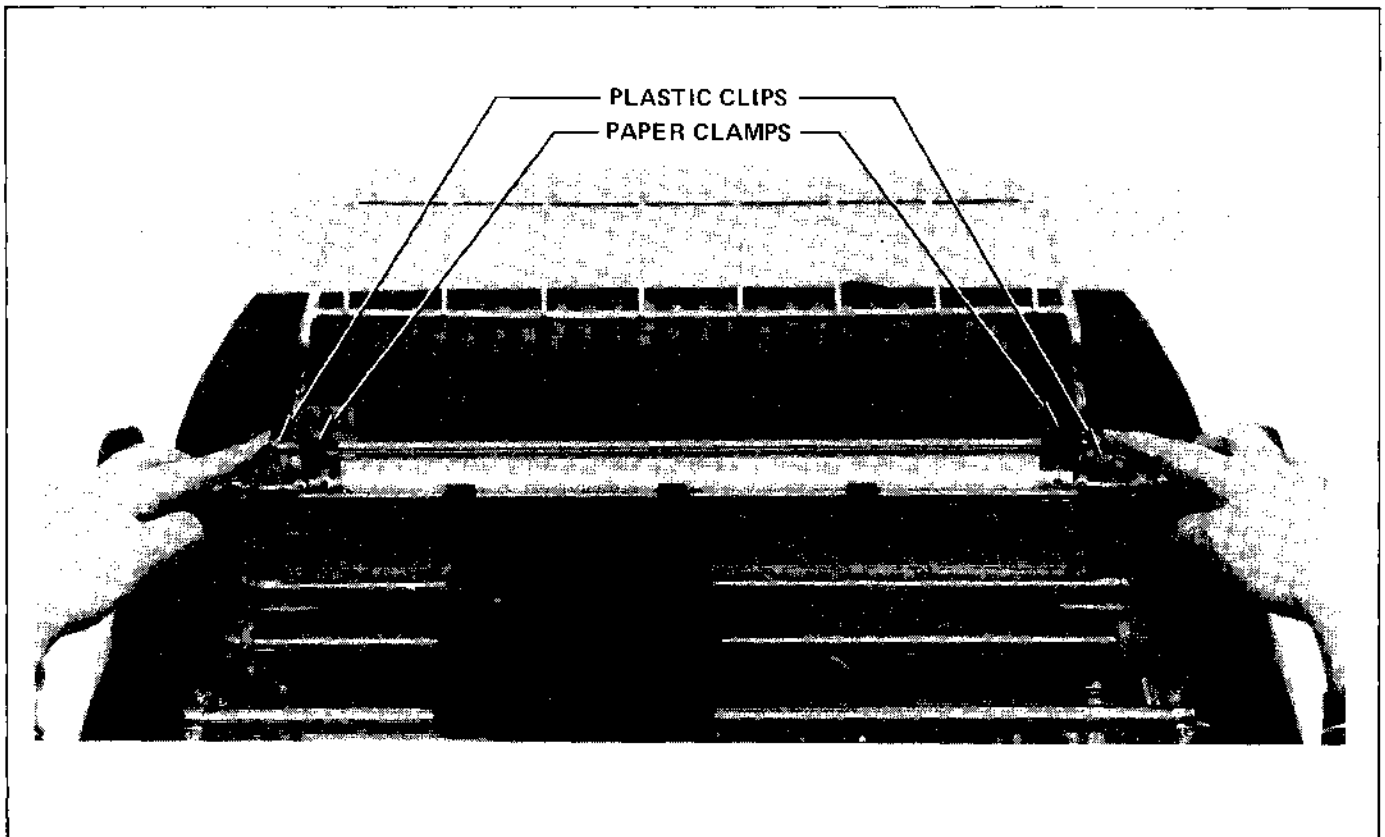

Figure 2-10. Pin-Feed Platen Installation
- (1) Remove the printer access cover and platen skirts to access the area of the platen.
- (2) Pull the paper bail lever and paper release lever forward toward the keyboard.
- (3) Grasp the pin-feed platen with both hands (as shown in Figure 2-10), so that the drive gear is to the right, the platen's paper clamps are pointing upward, and the white plastic clips are resting to the rear of the platen, pointing down.